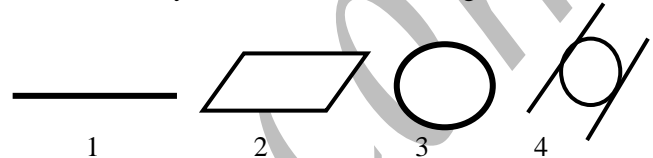

figure 20
38. choose the symbol for flatness from figure 20 Below.